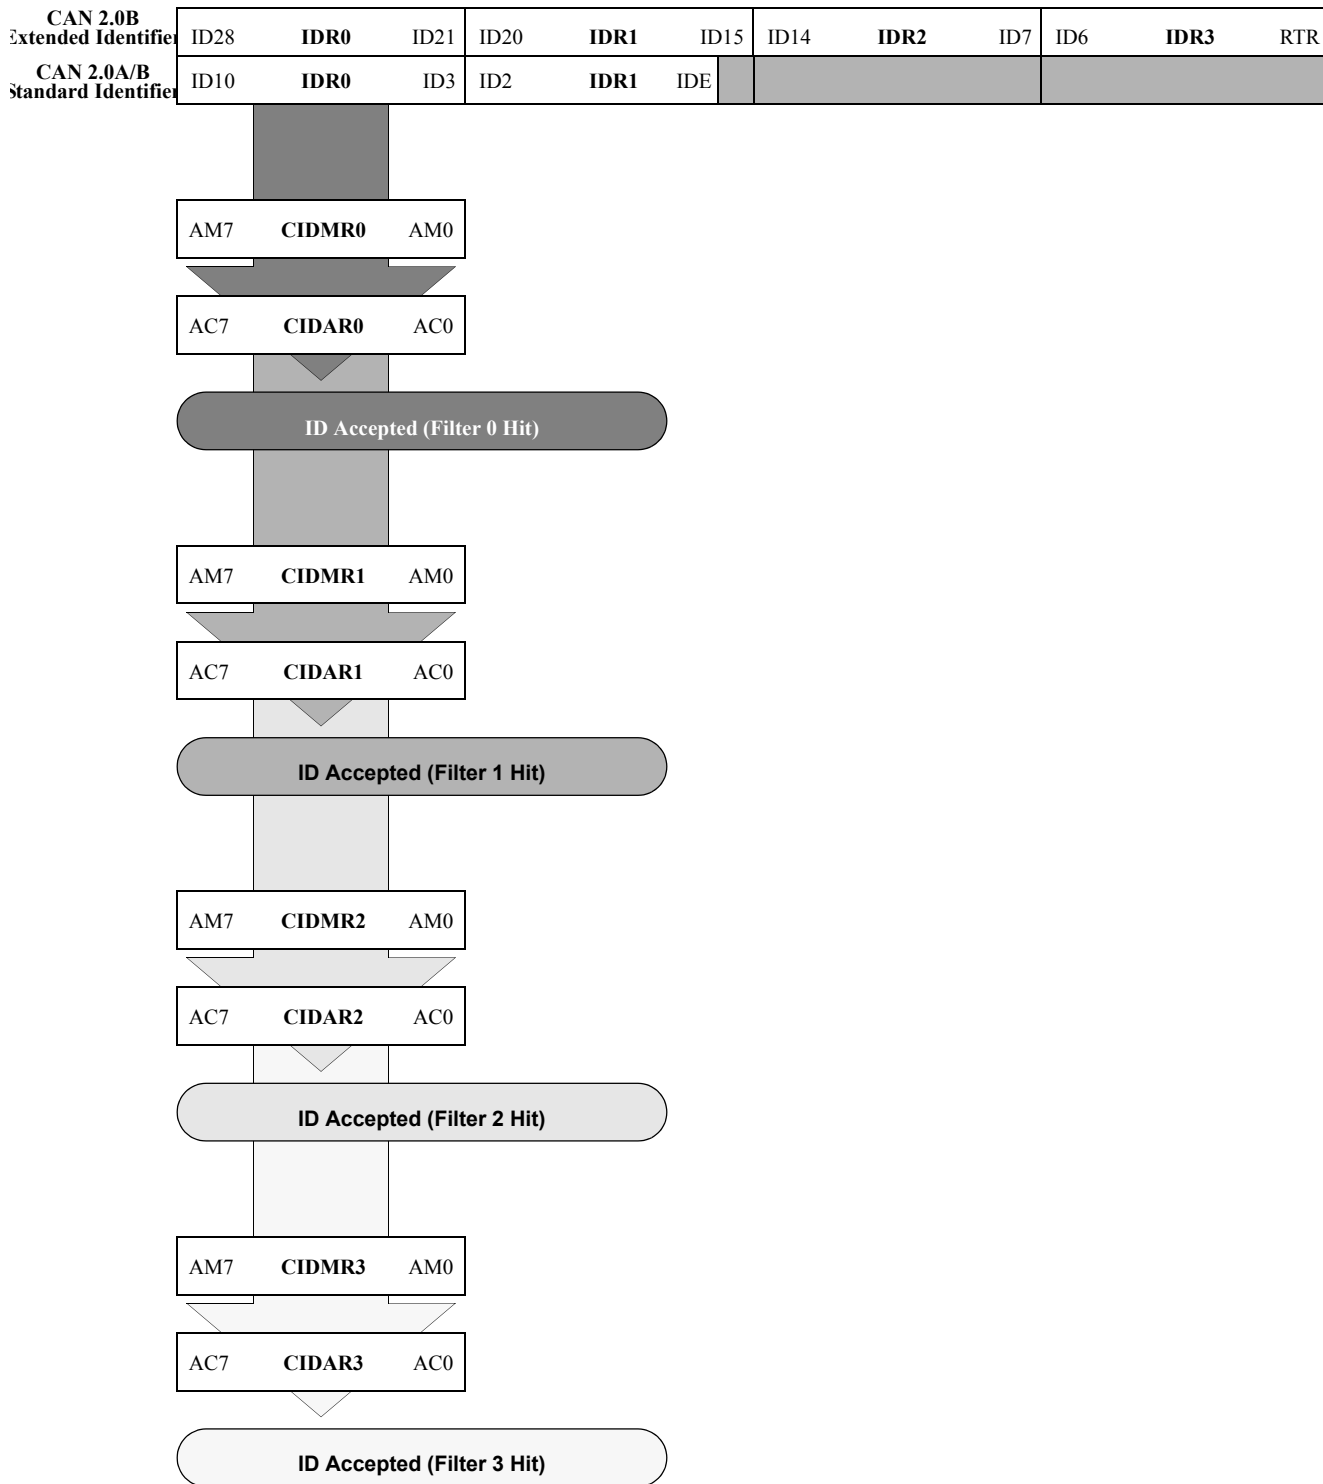

Figure 93. 8-bit Maskable Identifier Acceptance Filters
- Eight identifier acceptance filters, each to be applied to the first 8 bits of the identifier. This mode implements eight independent filters for the first 8 bits of a CAN 2.0A/B compliant standard identifier or a CAN 2.0B compliant extended identifier. Figure 93 shows how the first 32-bit filter bank (CANIDAR0–CANIDAR3, CANIDMR0–CANIDMR3) produces filter 0 to 3 hits. Similarly, the second filter bank (CANIDAR4–CANIDAR7, CANIDMR4–CANIDMR7) produces filter 4 to 7 hits.